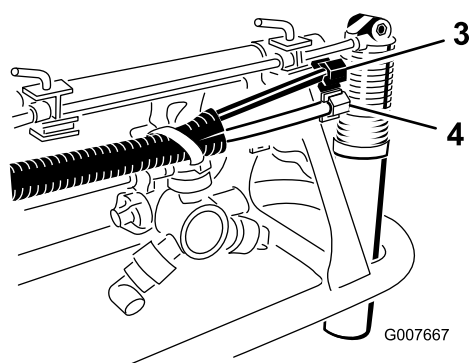

Figure 8
8. Locate the foam nozzles in loose parts and install a nozzle to the mounting rod as shown (Figure 8).